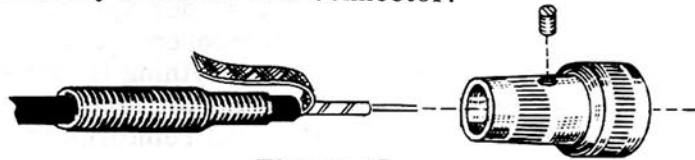

Figure 15
- () 248. Connect the center conductor of the cable just prepared to the solder lug (NS) on the red binding post.
- () 249. Twist the braid to form a small pigtail and connect it to the solder lug (NS) on the black binding post.
- () 252. Prepare the opposite end of the cable by cutting off $1/2''$ of outer insulation and pulling through the center conductor. Remove the spring from the coaxial connector and slip the large end over the outer insulation. Bend the braid back over the small end of the spring. Strip about $1/4''$ of insulation from the center wire, tin the end and push it through the center hole of the connector (S). Tighten the set screw to hold the spring and braid in place. Figure 15 shows assembly detail of this connector.